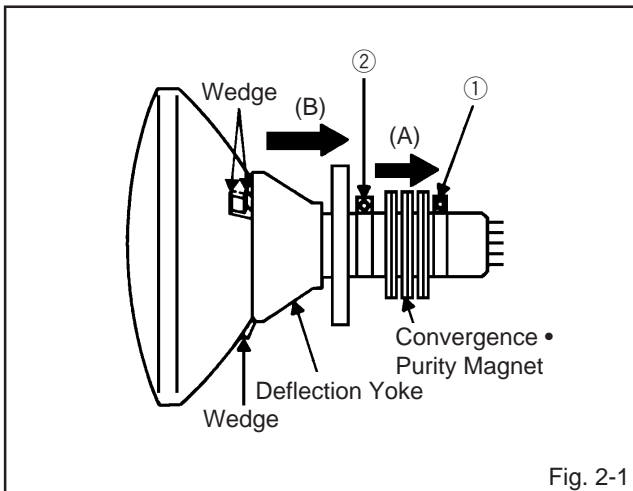

Fig. 2-1
2. REMOVAL OF DEFLECTION YOKE (Refer to Fig. 2-1)